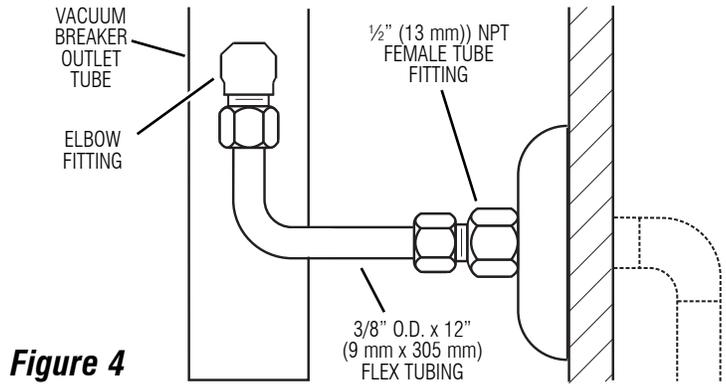

Figure 4
Step 4 — Install Flexible Tubing (Figure 4)